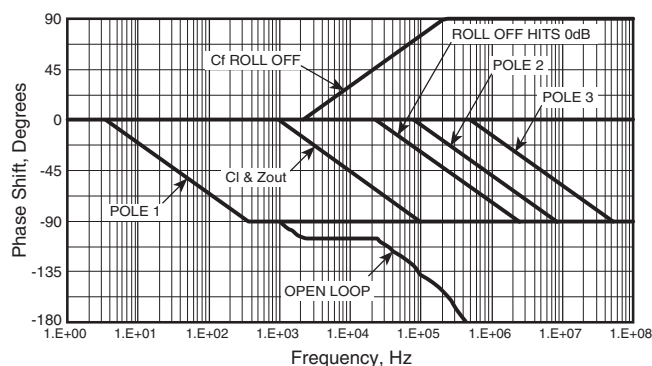

FIGURE 35.
STEP 5: The booster stage of the composite must be stable before we consider the overall composite amplifier. Booster circuit data was entered into the Cloud sheet of the Apex Microtechnology Power Design spreadsheet. Initial indications were an intersection rate of 40dB per decade and a phase margin of only 19°. Figure 34 shows Power Design has already added the 150Ω amplifier output impedance to the 15Ω current limit resistor and calculated the pole with the capacitive load to be at 9.6KHz. The booster stage was compensated with C_f producing a closed loop pole (a feedback zero) at 21.3KHz. Do not be confused by sub-Hertz or multi-GHz entries in the table; these show up because the spreadsheet avoids division by zero errors by forcing extremely small values for non-existent capacitors. Refer to Figure 35 to see phase contributions of all elements added, closure frequency of 75KHz, closure rate of 20dB per decade, and a phase margin of 52°.